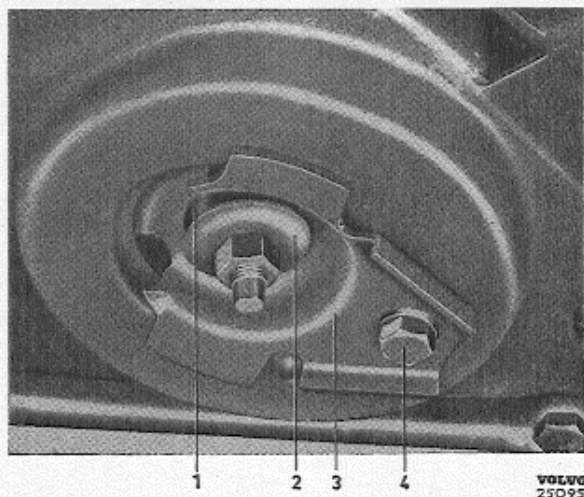

Fig. 2. Lower attachment of front shock absorber.
4. Remove the shock absorber nuts and washers and take off the outer rubber bushings (3, Fig. 1 and 1, Fig. 2). Remove the bolt (4, Fig. 2) for the attaching plate (3) and pull this together with the shock absorber downwards.
2. Remove the lower attaching nut, washers, attaching plate and rubber bushing. See Fig. 2.
3. Remove the bolt (4, Fig. 2) for the attaching plate (3) in the lower control arm and pull out the attaching plate and the shock absorber.